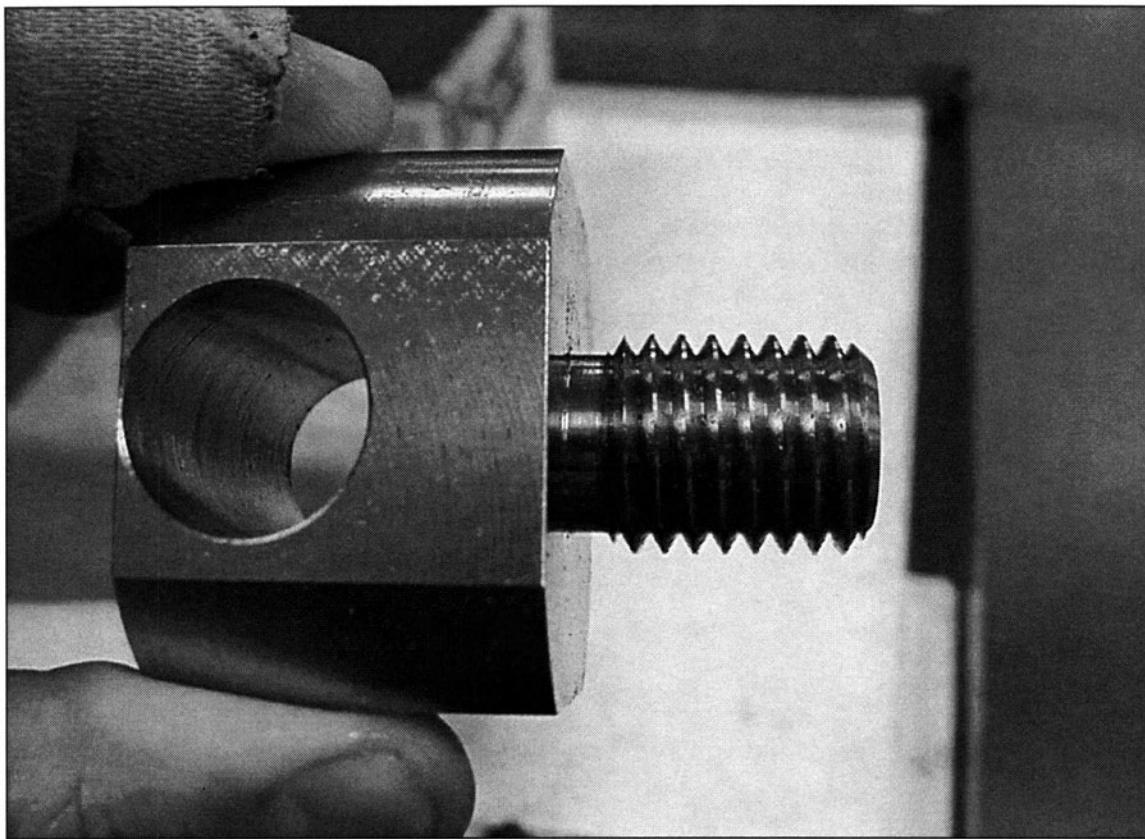

FIGURE 8-10 Threads can be machined in a variety of ways. This thread was roughed in with a single point tool and finished with a die button.
17. *Rough in a thread with a single point tool then finish it with a die button. (See Fig. 8-10)*